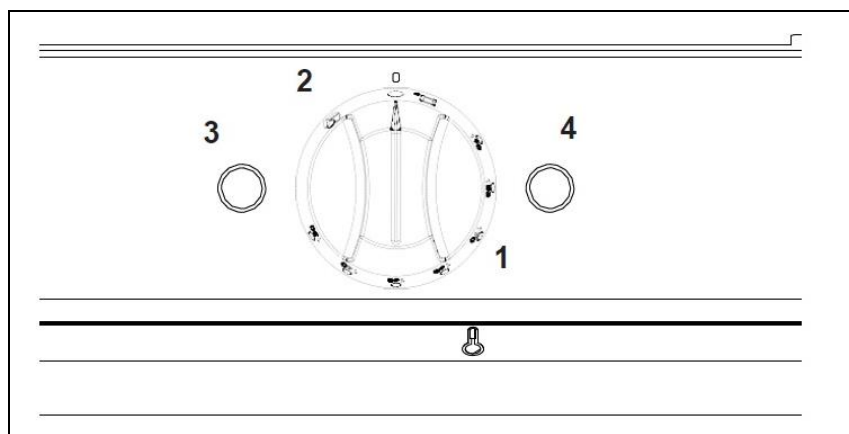

Figure 2 – G3840 Control panel
G3840/F Fryer Control Panel (See Figure 2)
e) Turn control knob to desired temperature (*140°C*) and heat demand indicator will illuminate (*Figure 2, item 4*).